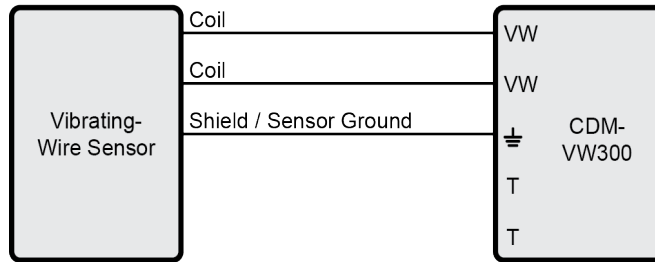

FIGURE 6-3. Three-Wire Sensor Connection Schematic (No Embedded Thermistor)
11. Connect the sensors to the CDM-VW300 (FIGURE 6-3 and FIGURE 6-4). For further guidance on connecting sensors, see Section 7.4.1, *Sensor Connections* (p. 19).